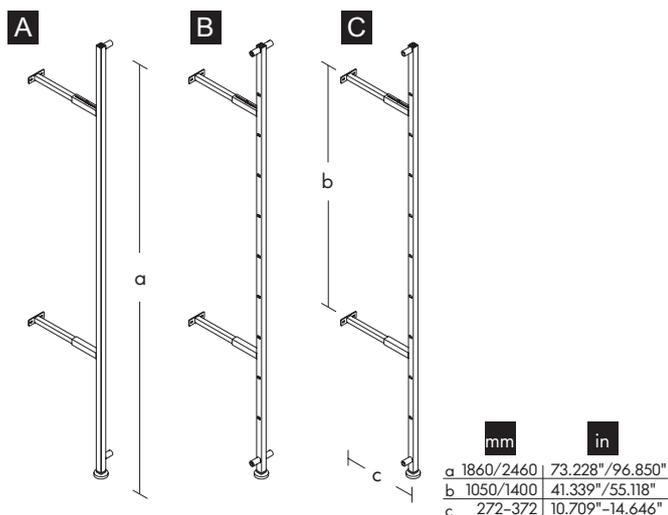

Fig. 3: Wall uprights
- Upright outside left electrified or non-electrified (Fig. 3/A)
- Centre upright electrified or non-electrified (Fig. 3/B)
- Upright outside right non-electrified (Fig. 3/C)